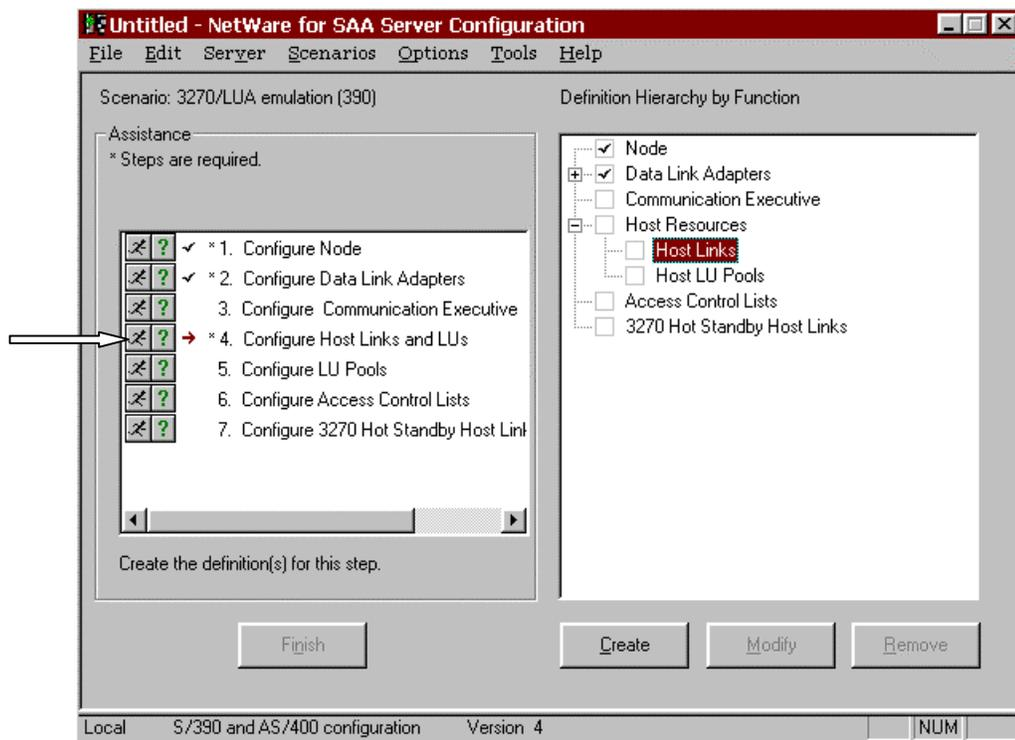

Figure 10-10. Start a Host Link Configuration
1. Click the “Running Man” next to **Configure Host Links and LUs** (Figure 10-10).